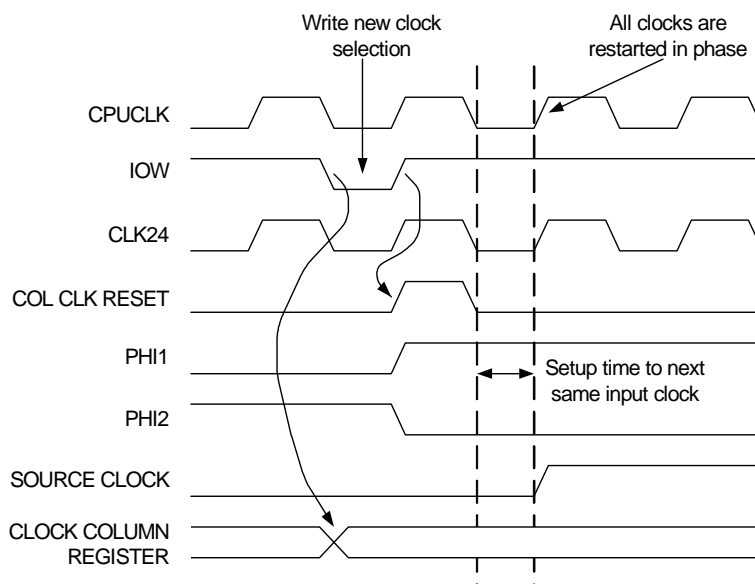

Figure 18-3. Column Clock Resynchronize on an IO Write
Figure 18-3 displays the top-level diagram of the PSoC device's analog system.
Figure 18-3 illustrates one column of the comparator bus. In the Continuous Time (CT) analog blocks, the CPhase and
As shown in Figure 18-3, the Comparator bus output is gated by a signal from the digital blocks. This feature is used to precisely control the integration period of an incremental ADC. There are two direct connect digital block output options per row for driving the gate signal: DBBx1 and DCBx2. This selection may be made with the ICCKSEL bits in registers DEC_CR0 and DEC_CR1. This function may be enabled on a column-by-column basis by setting the IGEN bits in the DEC_CR0 register.